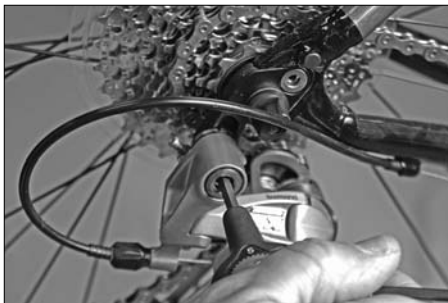

Figure 14-5:
8. Use an Allen wrench to remove the pivot bolt (see Figure 14-5), which will allow you to remove the derailleur.